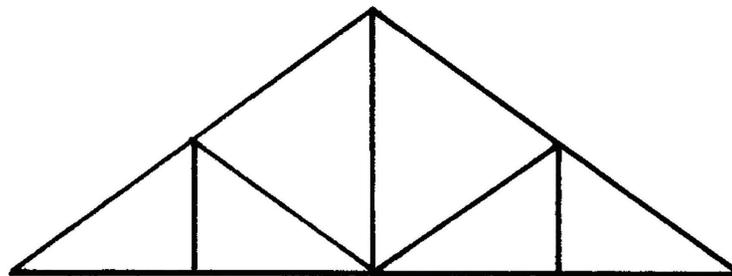

Figure 22
4. Make a copy of the diagram in Figure 22. Label members under compression with a “C” and members under tension with a “T”. Do this for all the members except for the rafters.